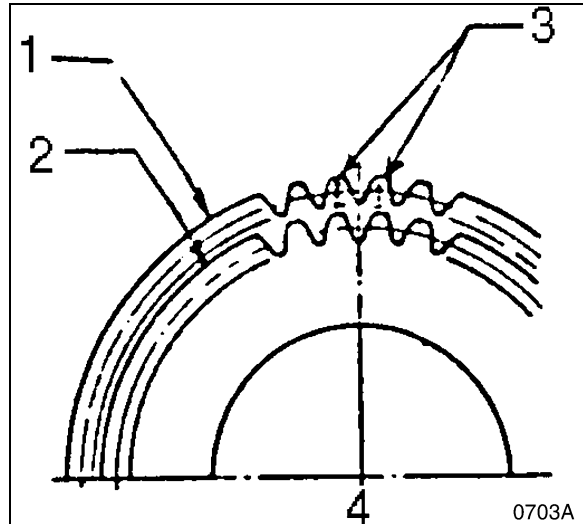

Figure 90
5. Match up the teeth of the inner ring gear (5, ring gear B, Figure 13) with the teeth of the planetary gears (6). As shown in Figure 90, planetary gears that match up to A ring gear teeth are wider in diameter. B planetary gears are smaller in diameter. Determine the timing point of the gear clusters by lining up the index marks grooved into the gears. Position the carrier (3) assembly inside the hub (1) so that gear clusters will match up with both ring gears (A and B).